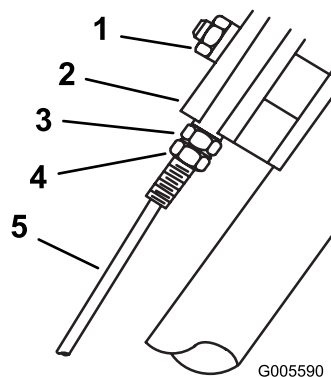

Figure 22
3. Loosen the nut on the support block (Figure 22).